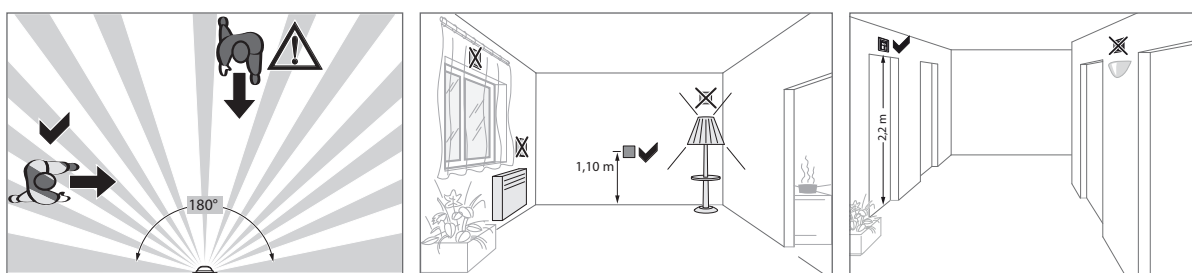

Fig 4: Installation location of the motion detectors
- i** Observe the motion orientation: a distinction is made between direct approach and transverse motion. Motions transverse to the motion detector can be detected better than motions toward the motion detector (Fig. 4).
- Avoid sources of interference in the detection area. Sources of interference, e.g. heating elements, ventilation systems, air conditioners and lamps that are cooling down can cause undesired switching (Fig. 4).